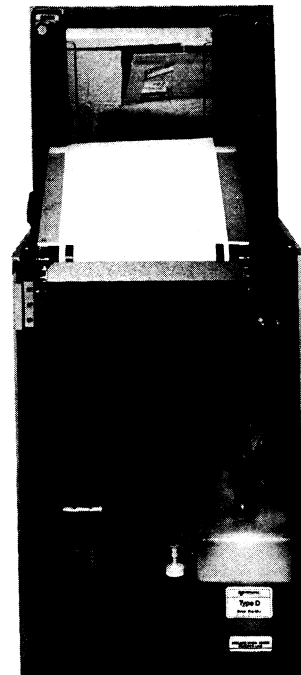

Figure 3-17 Toner and Concentrate Bottles Installed
4. Install small toner concentrate bottle in its holder as shown in Figure 3-17. Connect the small hose from the injector spout to the top of the large bottle.